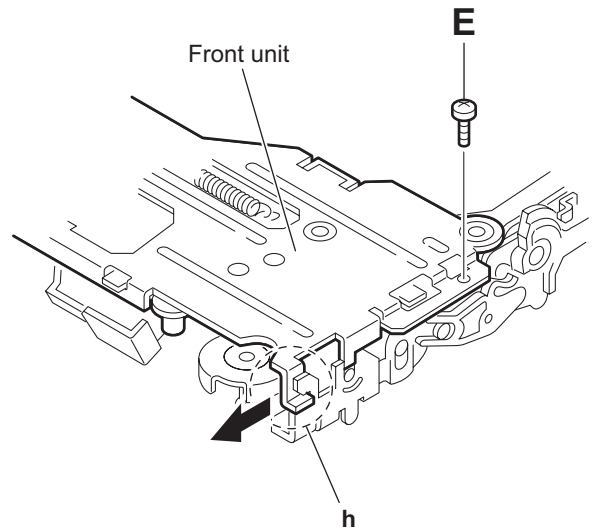

Fig.11
- (2) Remove the screw **E** attaching the front unit on the top of the body. (See Figs.11 and 12.)
- (3) Move the front unit toward the front to release joint **h**, and release two joints **i** and **j** on the right side of the chassis base assembly. Then remove the front unit upward. (See Figs.11 and 12.)
(See Figs.11 to 3)